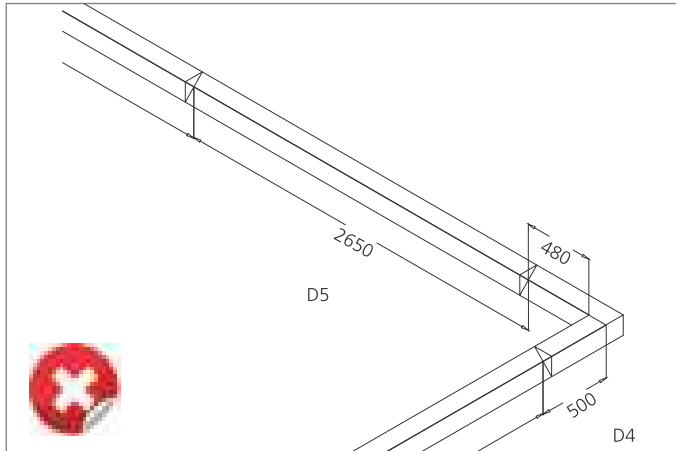

Fig 4 (avoidable practice)
- Fig.4 shows an avoidable practice: two non-standard dimensions – feeder 2650 + HE 480x500.